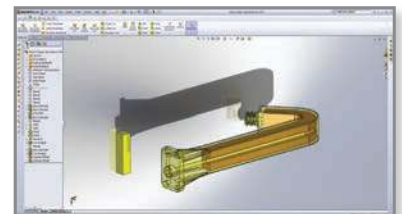
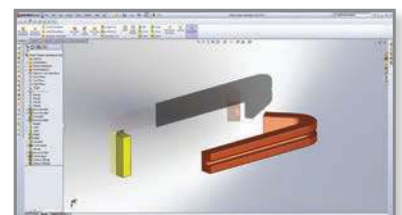

Figure 7: Region one (opaque-center) and region two (transparent-yellow outer area).
Figure 8: CAD model of region one with reference feature.
STEP 4: Extract a sub-region along with the reference feature from the complete CAD model (Figure 7), and then delete the balance of the model (Figure 8).